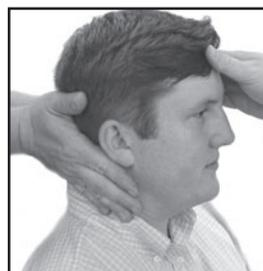

Fig. 1
1. Simulation (Fig. 1): While holding the client's head with your hands in the desired position, observe the amount of balance, types of movement and effects of pathological reflex activity. Tip: A digital picture at this point could be very helpful during the final adjustment.